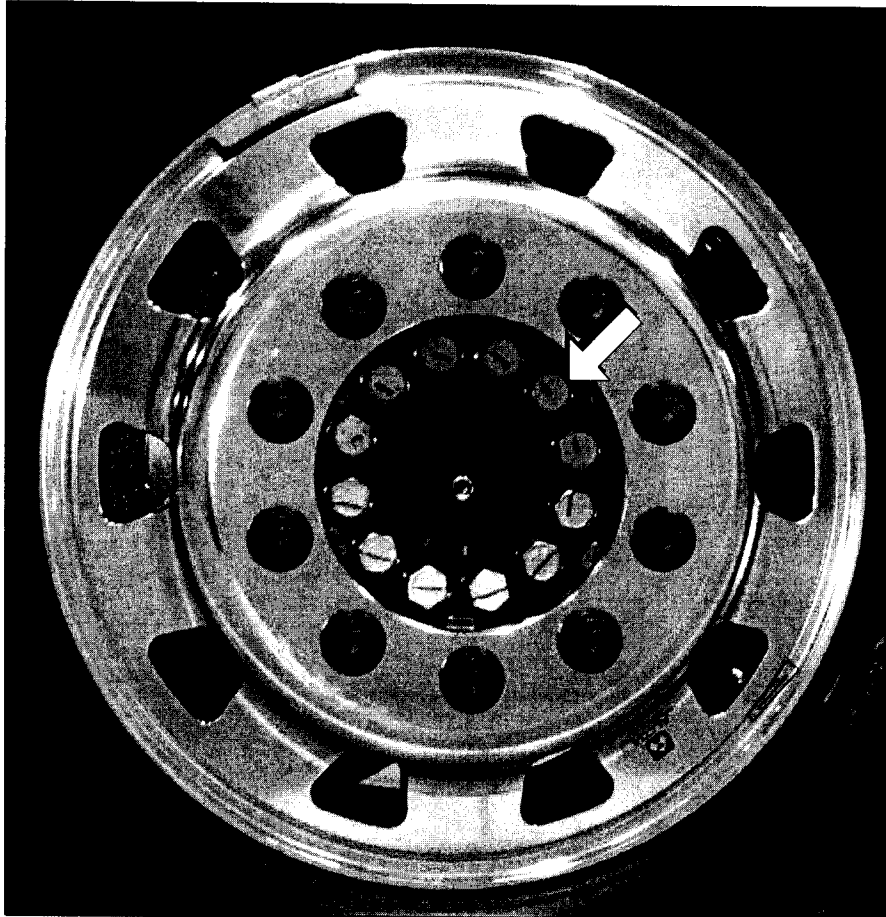

Figure 3.
4. Locate the twelve (12) wheel adapter capscrews on the front axle (refer to Figure 3).